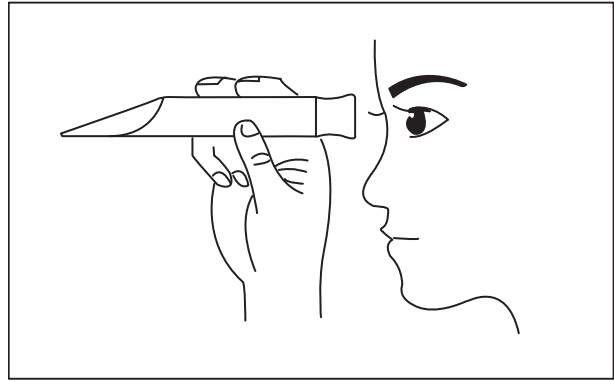

Fig. 6-7 Measuring procedure 4
4. Read the scale through the eye piece. Turn the eye piece until the scale is clearly visible. (Fig. 6-7)